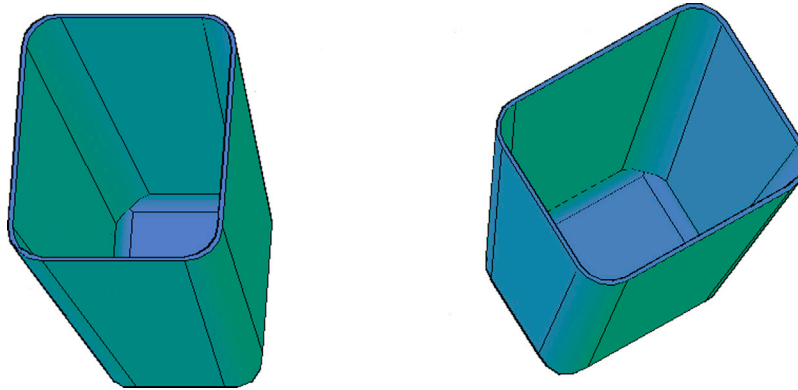

FIGURE 24.21 Wastebasket, Step 4.
Step 4. Shell the wastebasket to a 0.35" thickness, as seen in Fig. 24.21.